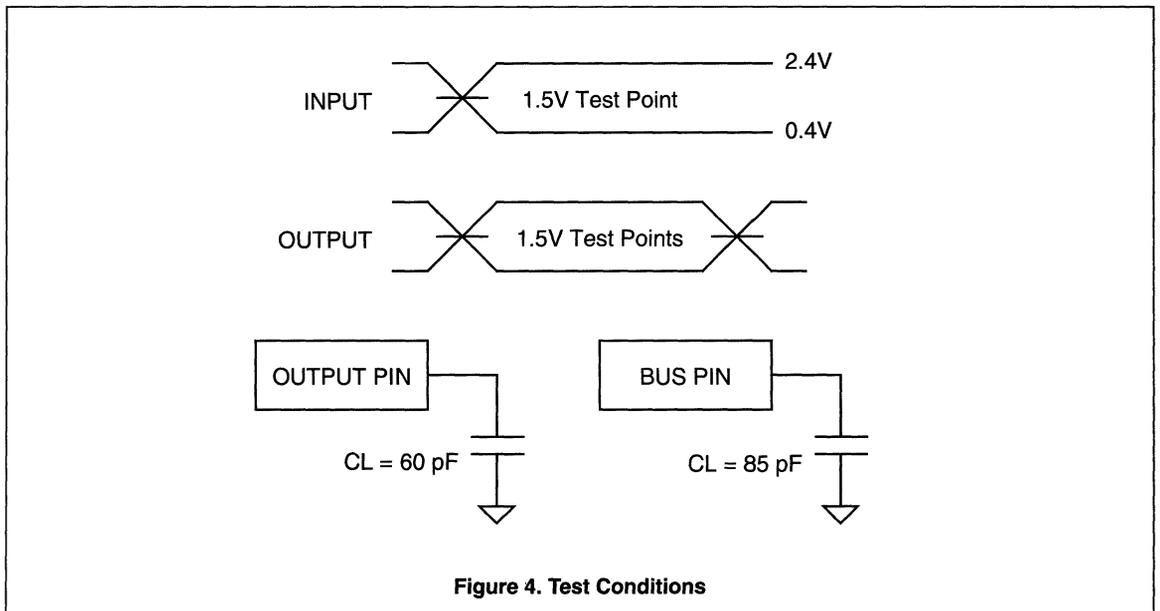

Figure 4. Test Conditions
4. All voltage measurements are referenced to ground. All time measurements are referenced at input and output levels of 1.5 V. For testing, all inputs swing between 0.4 V and 2.4 V. See Figure 4.
6. See Figure 4 for test conditions for outputs.